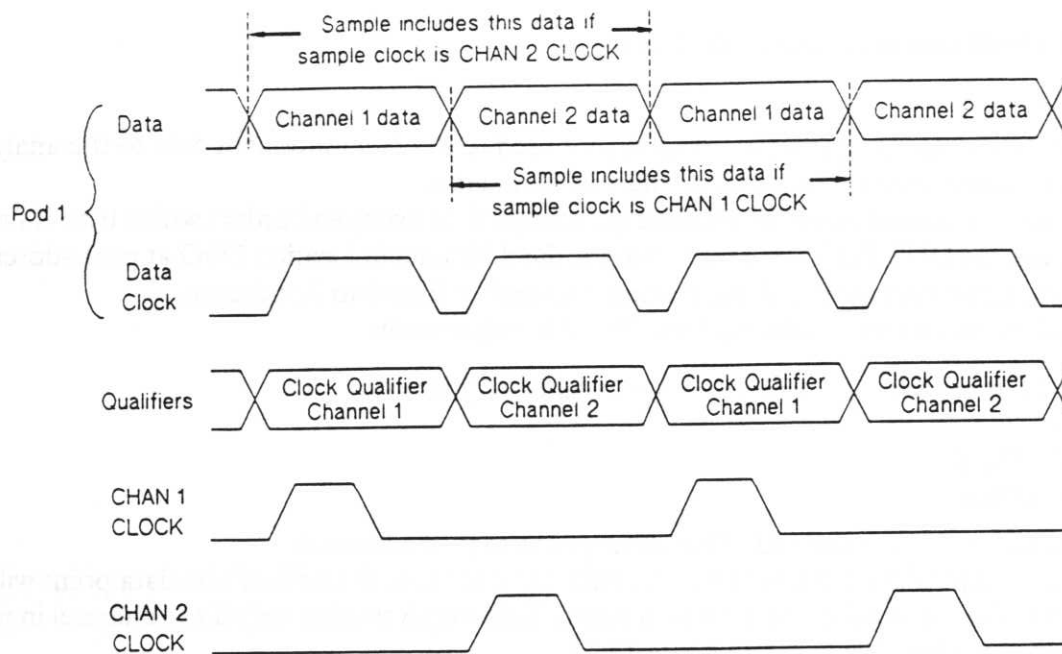

Figure 13-21. Selecting Channel Clocks for Sample Clock
- When moving two channels of data on Pod 1 (using qualifiers), you still have two channel clocks to select from when choosing a sample clock. The choice has the effects shown in figure 13-21.